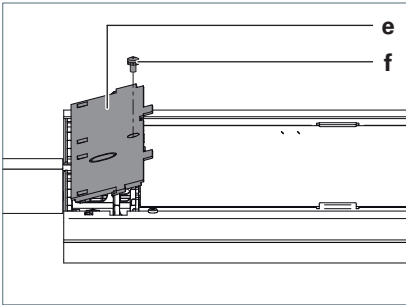

Fig. 15: Mounting the cover.
- Insert a cover **e** with the hooks on the bottom side of the cover into the eyelets on the light head and press the cover firmly, see Fig. 15.